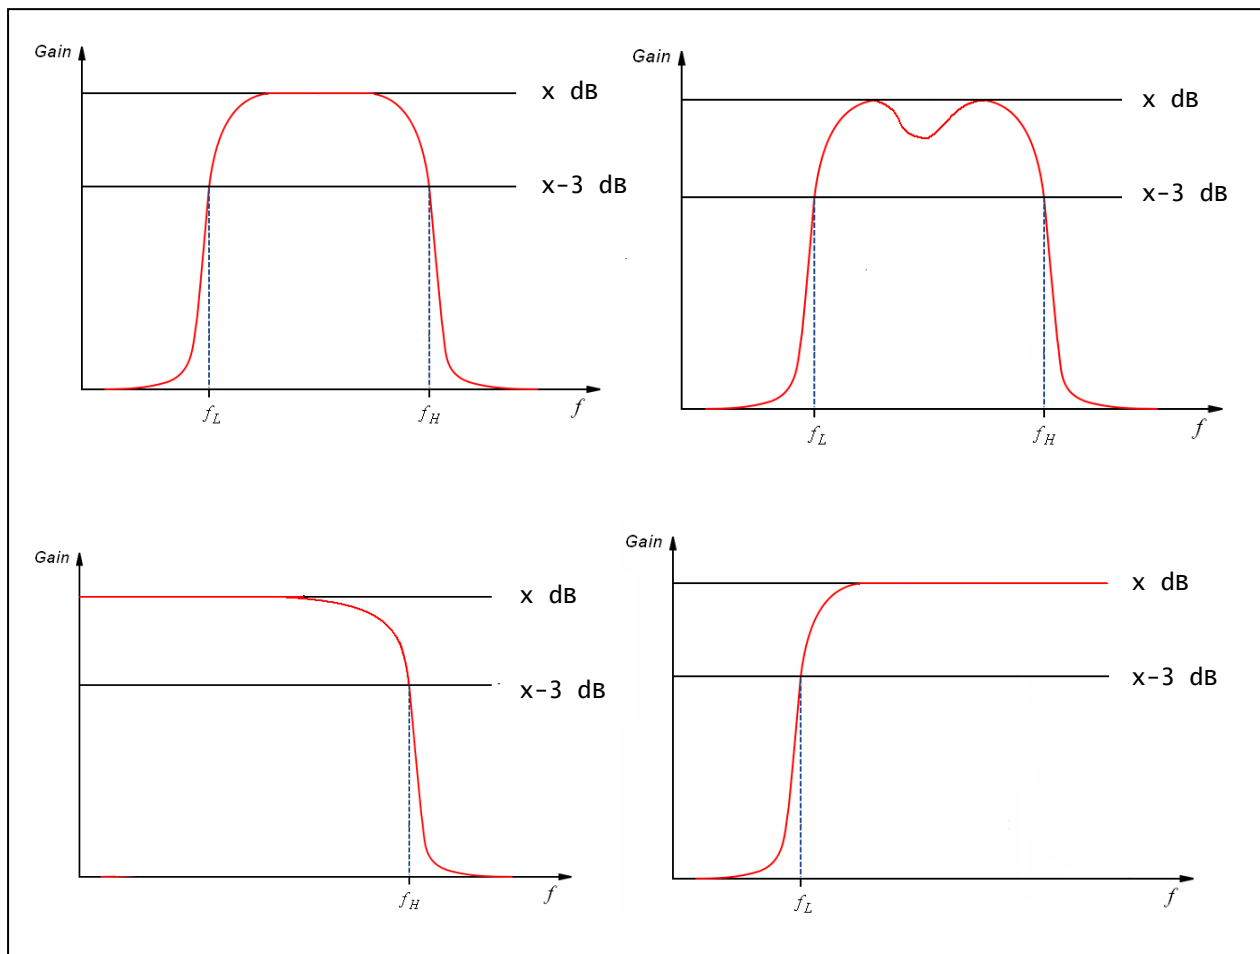

Figure 4-6 Sample Frequency Response Gain Plots for the Electret Microphone Capsule
- Can any of the curves in Figure 4-6 be used to represent the Gain curve? Why?
- Draw the Gain curve indicating the Electret sensitivity (i.e. the gain of the device, indicated as 'x' in Figure 4-6) and cut-off frequency(s) and discuss with a demonstrator.